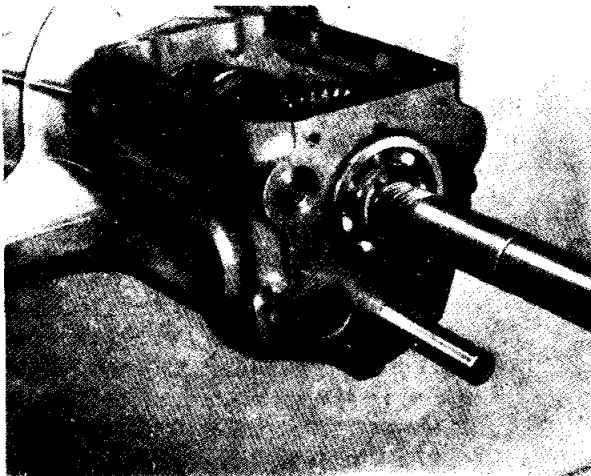

Fig. 8 Showing Needle Roller Retainer Tube Tool No. 20SM68 being used to drive out Countershaft.
- (i) After removal of the countershaft front end cover plate which is secured by two wired setscrews, plain washers and lead linger drive out the countershaft using a suitable tube as shown in Fig. 8, to retain the 48 needle rollers in position maintaining contact throughout between the tube and countershaft.